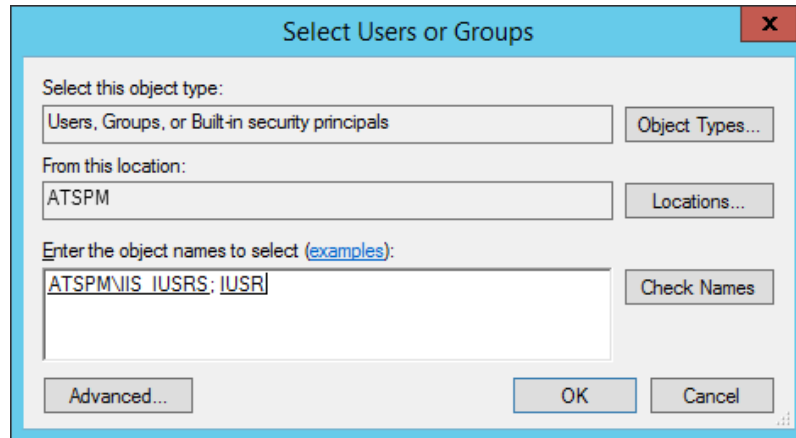

Figure 2: Folder permissions
4. Add IUSR and IIS_IUSRS roles to the website physical path folder (Figure 2):